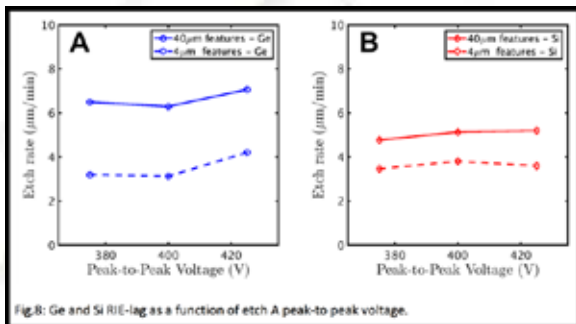

Fig.8: Ge and Si RIE-lag as a function of etch A peak-to-peak voltage.
- Figure 8: $MoSi_2$ etch- $Cl_2/O_2/Ar$
The ion energies within this step are largely responsible for etching the polymer at the base of the trench. The somewhat larger response of the Ge etch rate may suggest a thinner fluorocarbon layer, whereby increasing ion energies would result in greater penetration of reactive ions and the resulting substrate bond breakage making the more reactive Ge surface even more susceptible to chemical attack. Silicon's smaller decrease in etch rate with feature size as shown in Figure 8 would suggest a greater reliance on ion enhancement and may be attributed to the fact that ion transport is less affected by constricted feature size.